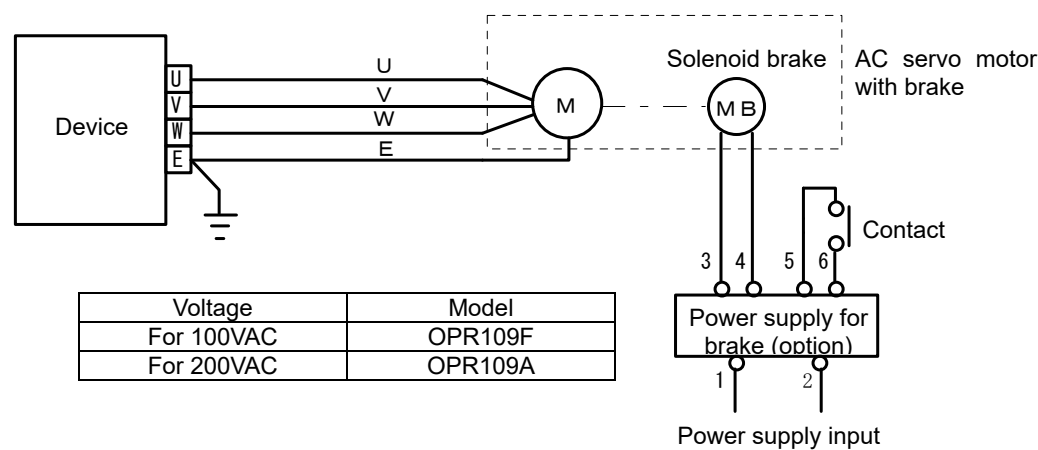

Figure 3-13 Connection of power supply for IM motor brake
- (1) Our brake for motor is sustaining brake during the stop time. The brake is of a de-energization operation (adsorption) type.
- (2) The brake release (disconnection) start time is about 0.5 second from the application of voltage.
- (3) Connection of power supply for brake is shown in Figure 3-13.
- (4) Connect brake terminal P to output terminal No. 3, and brake terminal N to output terminal No. 4, respectively.
- (5) Use a suitable contact to connect output terminals of No. 5 and No. 6, allowing 5 to 6 times of rating capacity of the brake total capacity.